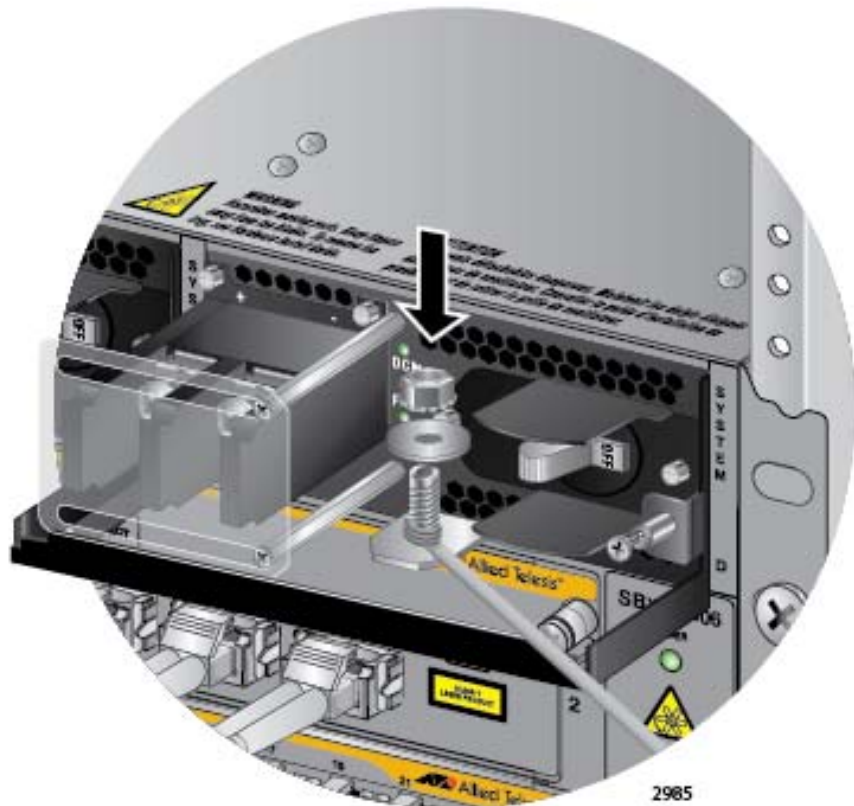

Figure 121. Securing the Bare Grounding Wire to the Grounding Post
4. Secure the wire with the nut and washer removed in step 2, and an 8 mm wrench, as shown in Figure 121.